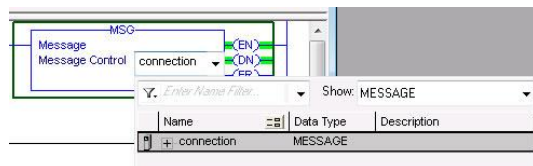

Figure 43: MSG Instruction Tag Assignment
- a) Edit the “Message Control” field on the MSG instruction to use the previously-created “connection” tag. Refer to Figure 43.